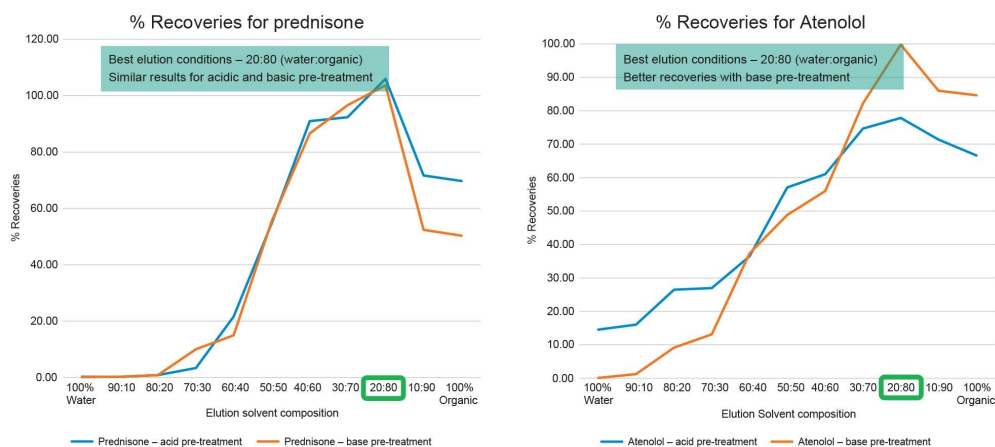

Figure 4. Method optimization results – (A) Prednisone and (B) Atenolol.
Using this experimental set up, we were able to increase the recoveries for the analytes mentioned above which previously had moderate to low recoveries. Figure 4 shows % recoveries plot for (A) Prednisone and (B) Atenolol. Based on the optimization results, % recoveries for prednisone can be maximized using a 20:80 aqueous:organic elution solvent composition. The pre-treatment step does not seem to affect the recoveries meaningfully. For Atenolol, base pre-treated samples eluted using 20:80